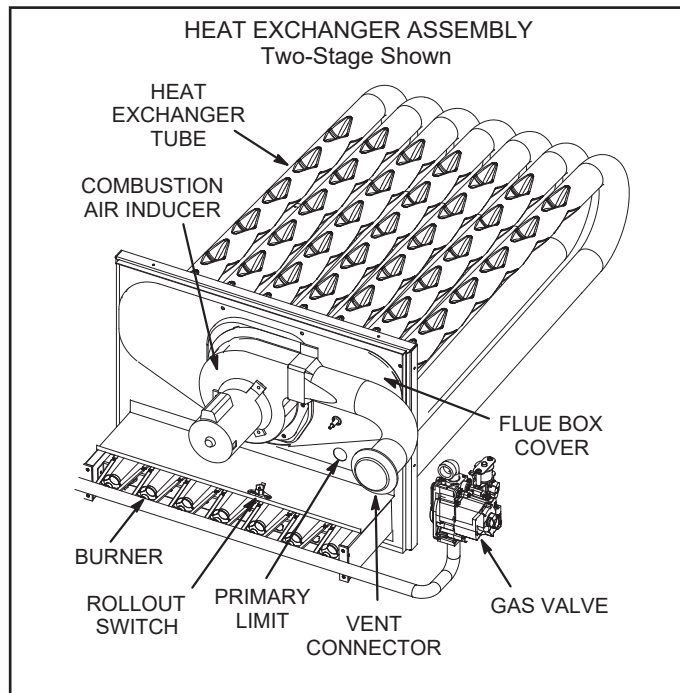

FIGURE 38
- 4 - Remove and retain screws securing combustion air inducer to flue box. Remove vent connector. See FIGURE 38.
Limit controls are factory-set and are not adjustable. The primary limit is located to the right of the combustion air inducer. See FIGURE 38.
This normally closed switch opens on a temperature rise. The roll out switch is factory-set and is not field adjustable. See FIGURE 38.
Condenser coils are made of single and two formed slabs. On units with two slabs, dirt and debris may become trapped between the slabs. To clean between slabs, carefully separate coil slabs and wash them thoroughly. See FIGURE 38. Flush coils with water following cleaning.